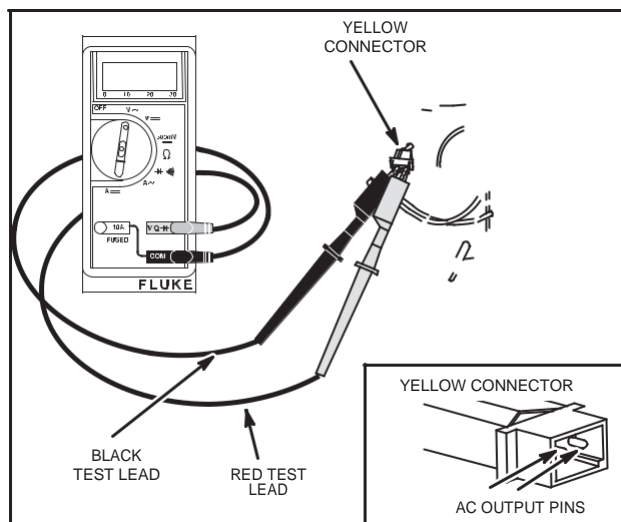

Fig. 21 – Testing AC Output
4. Insert RED and BLACK test lead probes into output terminals in yellow connector, as shown in Fig. 21. (Meter test clip leads may be attached to either terminal.)